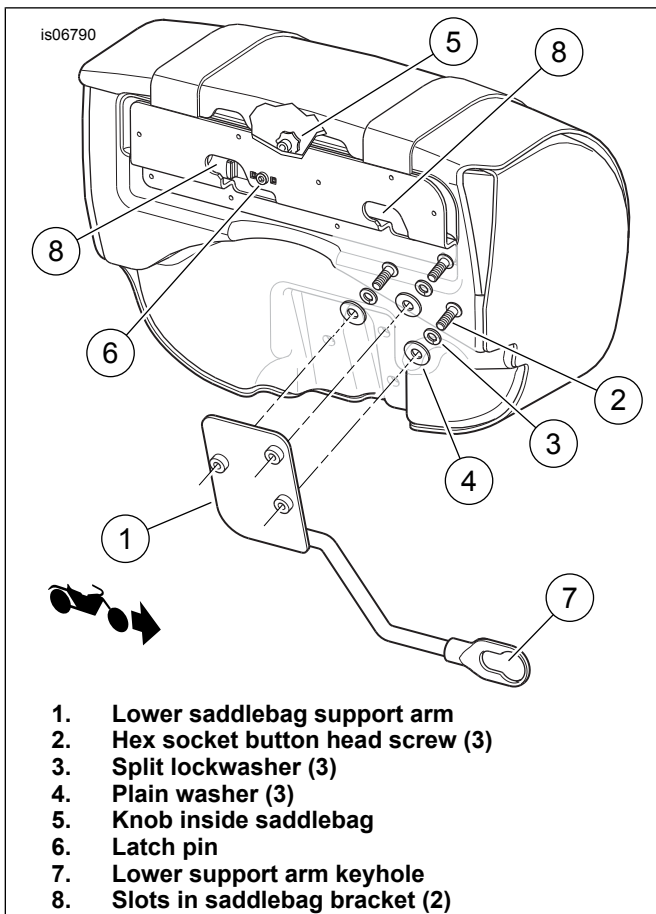

Figure 8. Lower Support Arm Installation (Left Shown)
1. See Figure 8. Position the lower support arm to the outside of the back of the saddlebag. Apply a few drops of Loctite 243 - Blue to the threads of the screws (2). **Loosely** install the lower support arm (1) to the saddlebag from inside the saddlebag using screws (2), lockwashers (3) and plain washers (4).
2. See Figure 8. From the inside of the saddlebag pull and rotate the knob (5). The latch pin (6) will release the bracket lock.
3. With the bag tipped forward, swing the large diameter of the keyhole end (7) of the lower support arm over the lower docking point. Swing the body of the bag down so that the outer docking points on the strut cover slide into the slots (8) of the bracket on the back of the bag.
5. With the bag as far forward as possible, rotate the knob 1/4 turn. If the bag is seated properly, the knob should pop back in. Look behind the bag and make sure that the latch (6) is in the closed position.
6. Rotate the support bracket (1) so that the lower docking point is fully seated into the smaller diameter of the lower support bracket keyhole. Tighten the footrest support bracket mounting screw to 34–41 N·m (25–30 ft-lbs).
7. If adjusting the support bracket in Step 10 causes the bag or lower support arm to be lifted or pushed down, loosen the three screws (2) holding the lower support arm to the saddlebag and adjust the arm forward or back as needed. Tighten the three support arm screws to 7–10 N·m (60–90 in-lbs).